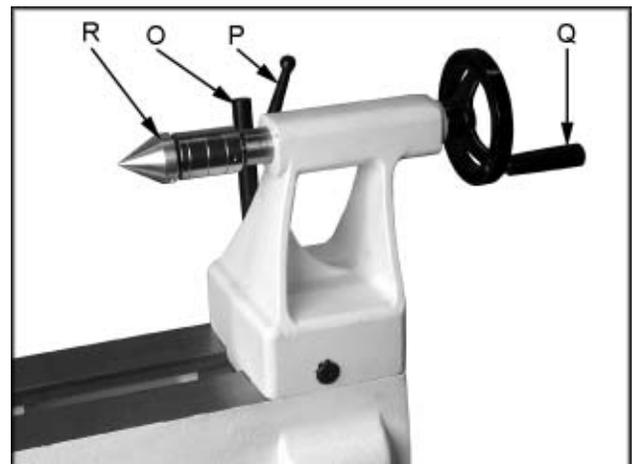

Fig. 10
12. **Tailstock Lock Handle:** (O, Fig. 10)
13. **Tailstock Quill Lock Handle:** (P, Fig. 10)
14. **Tailstock Quill Handwheel:** (Q, Fig. 10)
15. **Tailstock Live Center:** (R, Fig. 10)